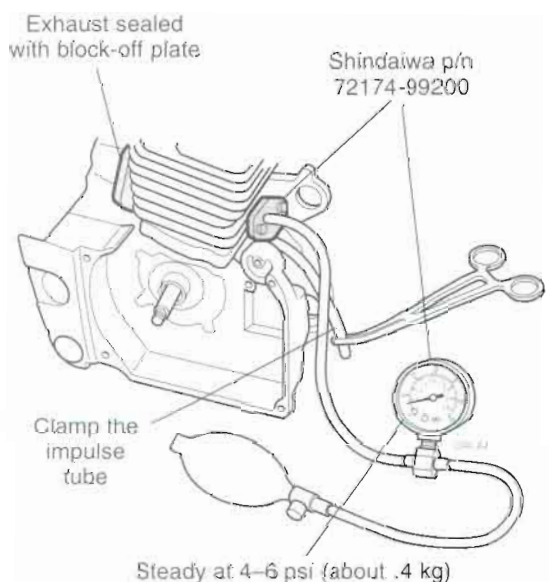

Figure 2.16 Leak-testing with Gauge p/n 72174-99200
- After blocking the intake and exhaust ports, a gauge such as Shindaiwa p/n 72174-99200 can be used to pressurize the crankcase through the impulse tube or through an adapter as shown (Figure 2.16).